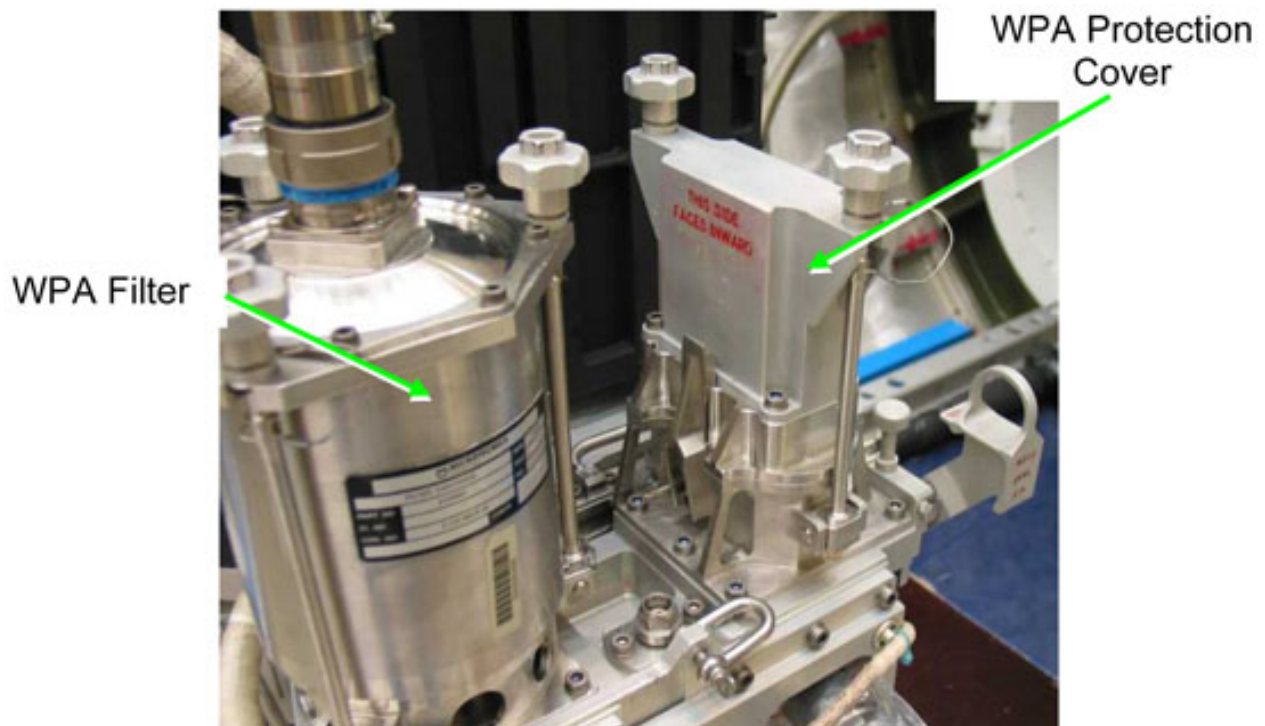

Figure 11. WPA/Hydrocyclone interface cover as installed
- 5.6 Wipe off any residual water from the WPA QDs (Dry Wipes), then verify no contamination on seals. Align and install WPA Protection Cover on the WPA with the label THIS SIDE FACES INWARD facing the WPA Filter. Refer to Figure 11.